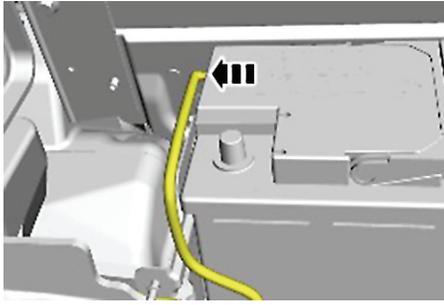

Fig. 2 Battery vent tube removal
6. Detach battery vent tube, **Fig. 2**.